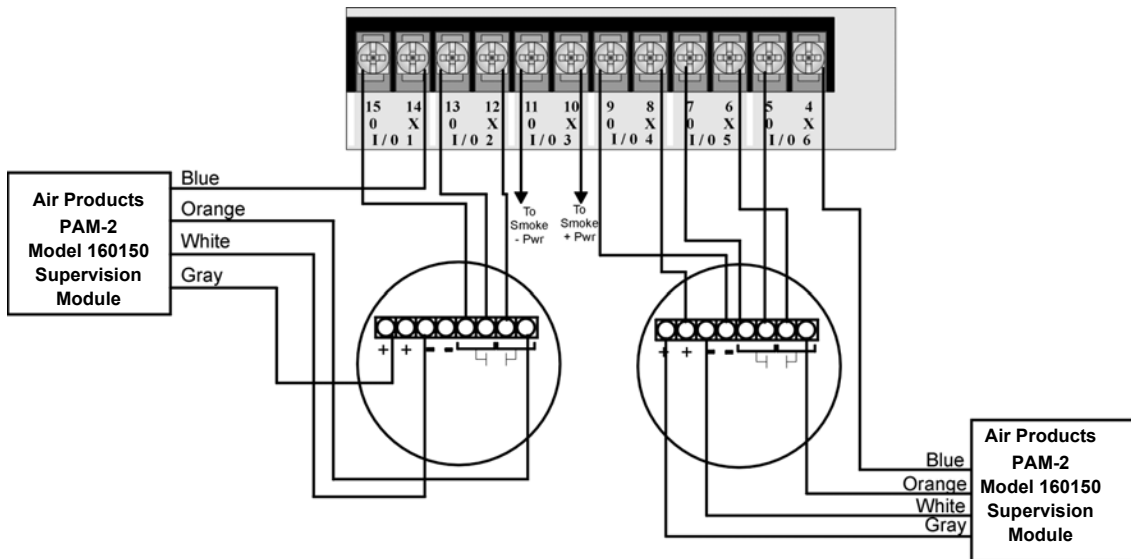

Figure 3.16 Class A 4-Wire Smoke Detector Connections
Figure 3.16 illustrates how to install 4-wire Class A detectors.
2. Smoke power is supplied to each Class A loop as shown in Figure 3.16.
**NOTE:** In programming any point that uses multiple I/O circuits are always referred to as the lowest I/O circuit number used. For example, Figure 3.16 uses I/O circuits 1, 2, 3 together and 4, 5, 6 together. In programming (1, 2, 3) would be referred to as point 1, and (4, 5, 6) would be referred to as point 4.